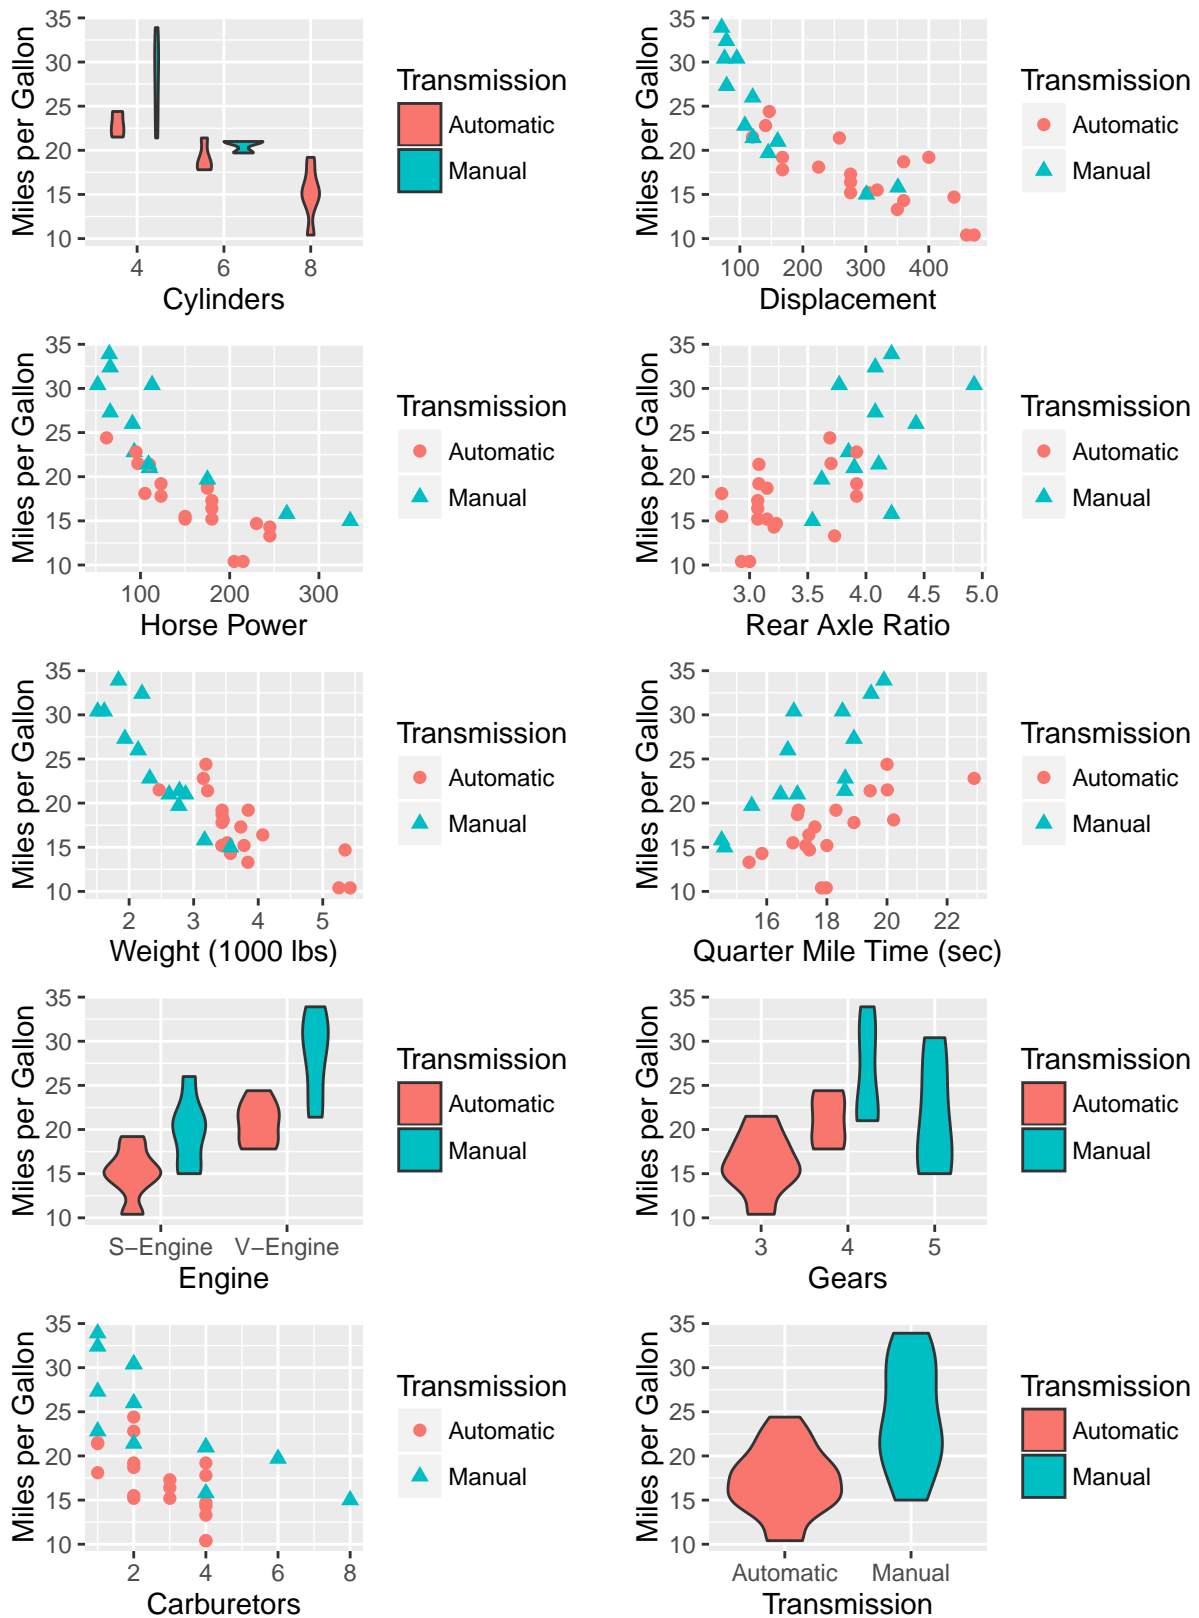

Figure 1: Miles Per Gallon Performance over Several Variables.
**Figure 1** (see appendix) overviews the Miles Per Gallon performance over several variables, **in general we do observe that an automatic transmission has better MPG than manual.** The performance is observed for the following variables: **Cylinders; Displacement; HP; Rear Axle Ratio; Weight; Quarter-Mile Time; Engine; Gears; Carburetors; and the transmission itself.**